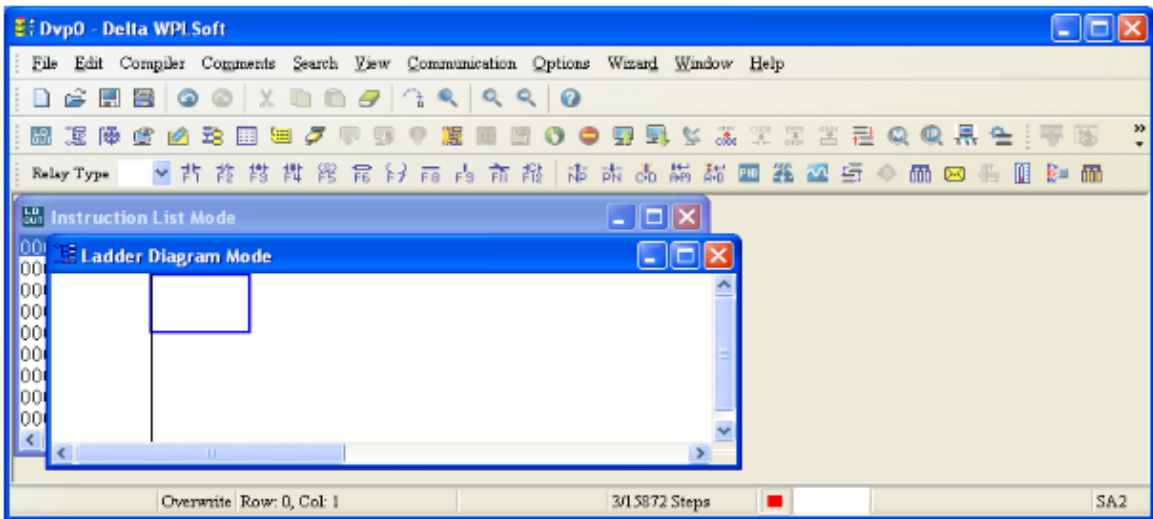

Figure 16-18
Step 1. Figure 16-18 shows the WPLSoft program after you create a new project file.